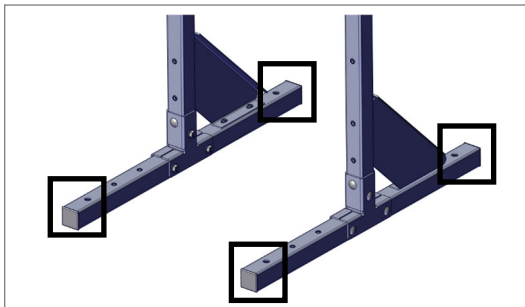

Fig 9. Install Screws/Anchors Through Rack Base
7. (Recommended) Install four (4) screws and/or expansion anchors (field-supplied) through the base of the legs to prevent tipping potential (Fig 9).